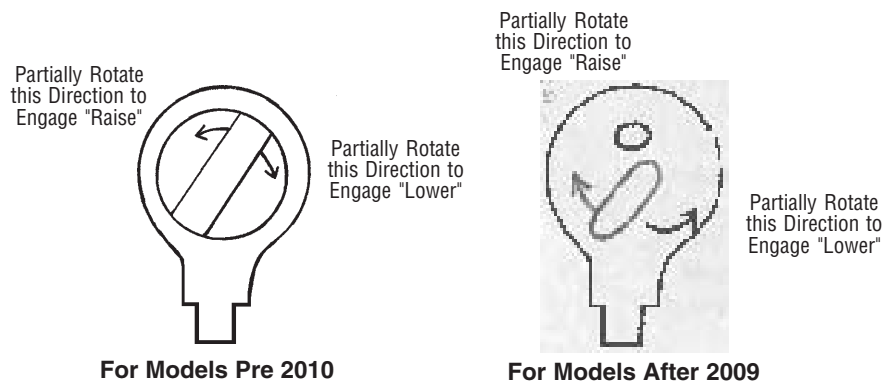

Figure 4-10. Set Ratchet Drive Directional Control
2. Set ratchet drive directional control (see Figure 4-10):